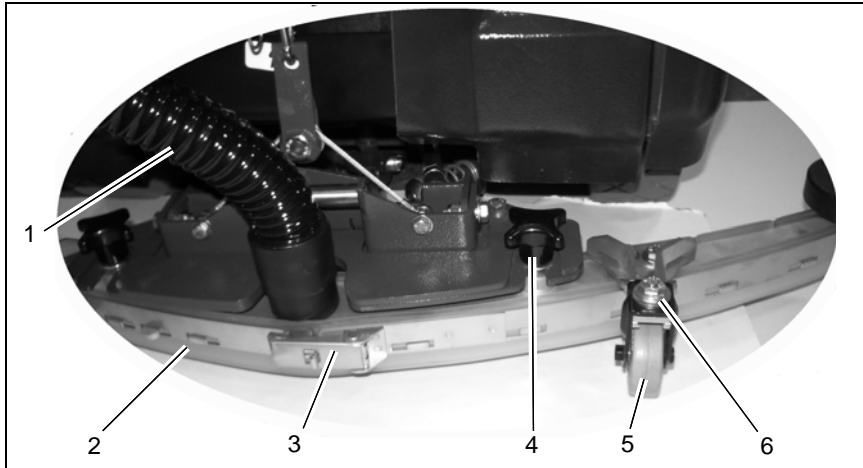

Fig.18
Check the squeegee (Fig. 18/2) daily and clean as necessary.
To clean, lift up the squeegee, pull off the suction hose (Fig. 18/1), loosen the two star-shaped knobs (Fig. 18/4) and remove the squeegee.
Check the inner and outer squeegee blades on the squeegee (Fig. 18/2) weekly for signs of wear. The squeegee blades can be used fourfold by turning them.
3. Unlock the fastening latch (Fig. 18/3) and remove the outer squeegee blade. Turn the squeegee blade or install a new one. Change the inner squeegee blade in the same way.